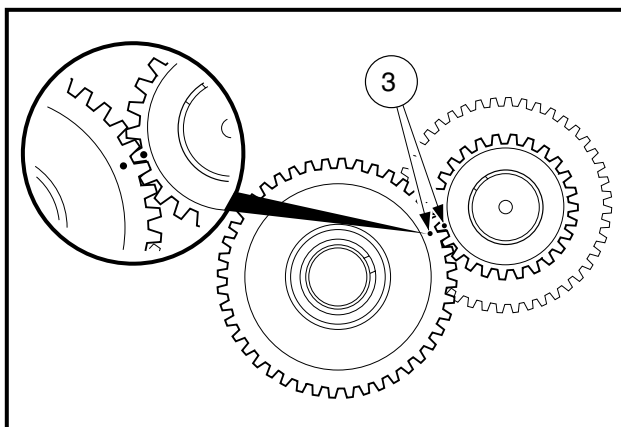

Figure 2-97 Align Timing Marks
3. Align the timing marks (3) (Figure 2-97, Page 2-42). **See following NOTE.**